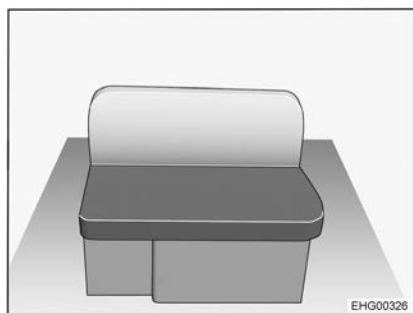

Fig. 38 Divan, on the right
- Remove the seat cushion and the back cushion from the divan (Fig. 38).